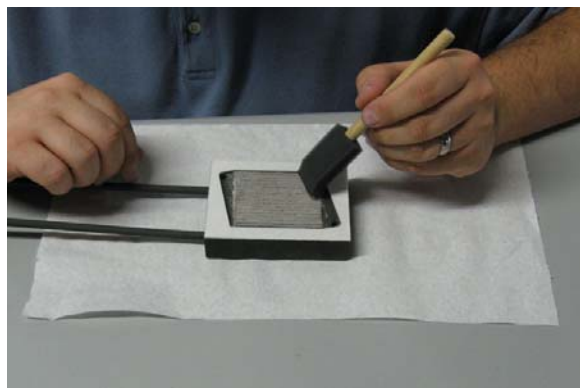

Figure 4
- Use the ink sparingly to prevent clogging the gas flow channels(Figure 4)